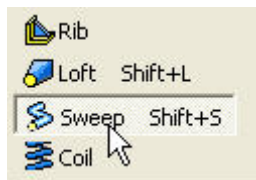

Figure 29
22. Click Return to and select **Sweep** from the Part Features panel to open the Sweep Dialog box as shown in Figures 29 and 30.